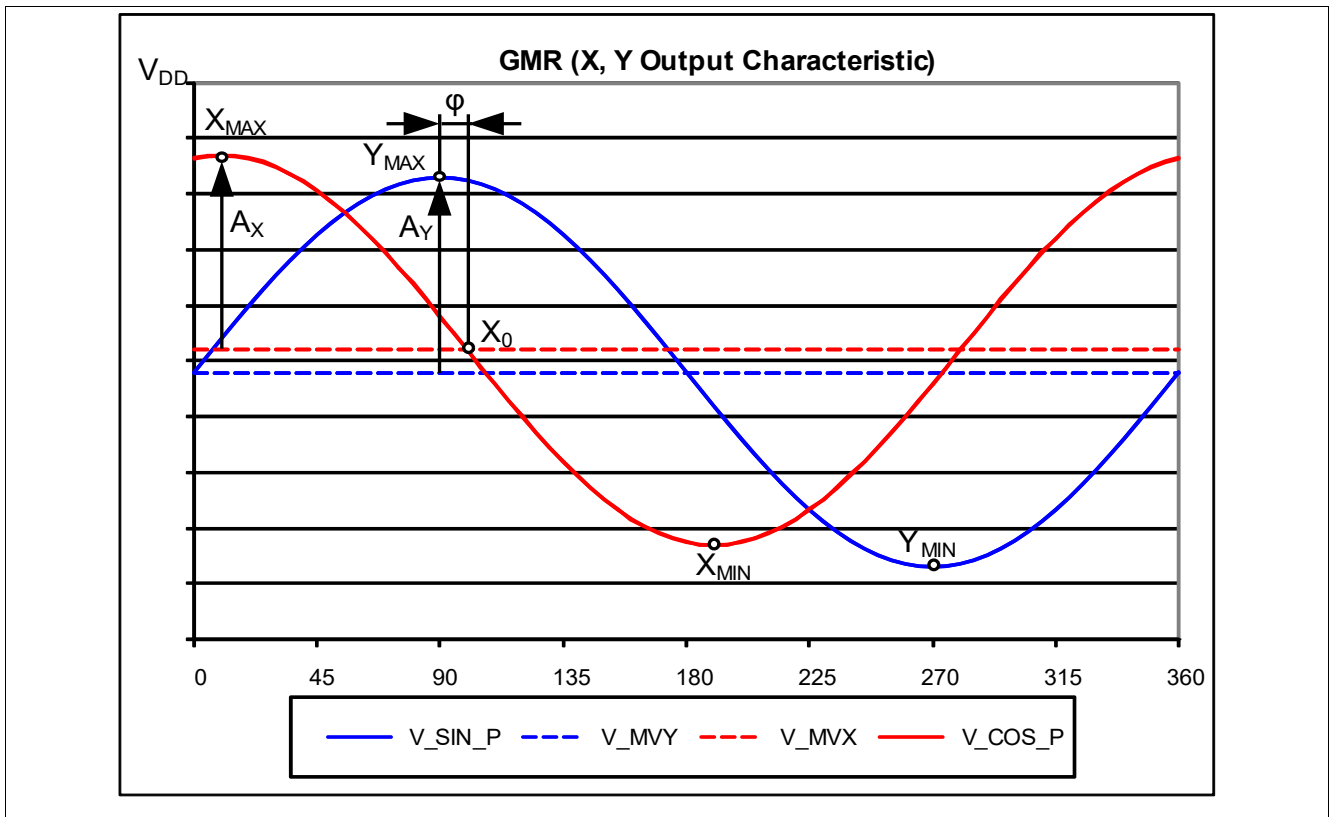
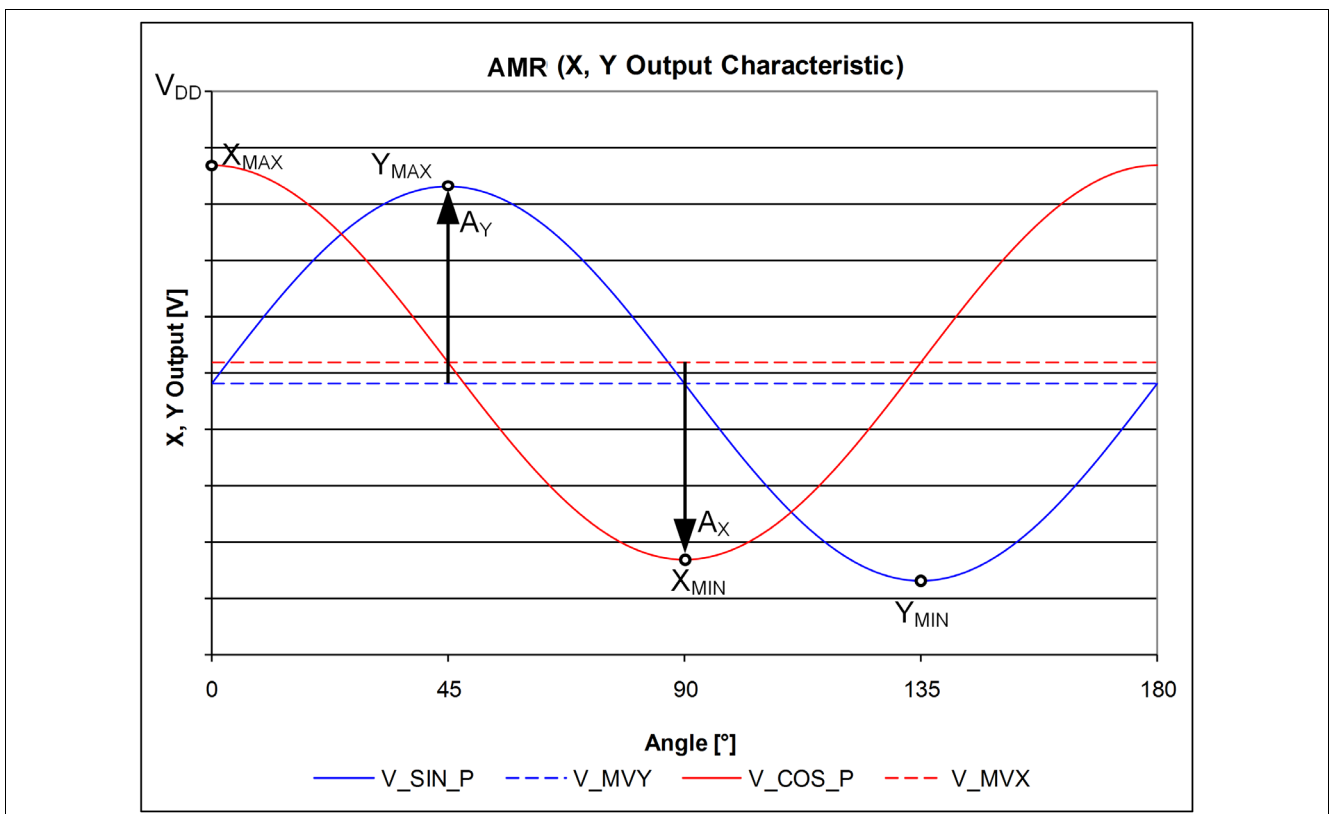

Figure 17 GMR sensor single-ended output signals
Figure 18 AMR sensor single-ended output signals
All parameters apply over the full operating range, unless otherwise specified. The parameters in **Table 9** refer to single pin output and **Table 10** to differential output. For variable names please refer to **Figure 17 “GMR sensor single-ended output signals” on Page 20** and **Figure 19 “GMR differential output of ideal cosine” on Page 21**.
1)  $V_{max}$  and  $V_{min}$  correspond to the voltage levels at  $X_{max}$  or  $Y_{max}$  and  $X_{min}$  or  $Y_{min}$  respectively as shown in Figure 17, Figure 18.